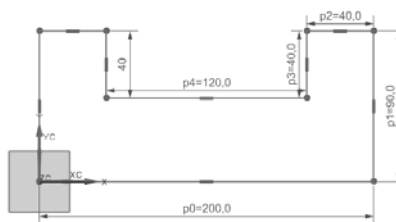

Figure 2-57 Sketch after drawing the lines
16. Press the ESC key twice to exit the **Profile** tool. The sketch after drawing the lines is shown in Figure 2-57.